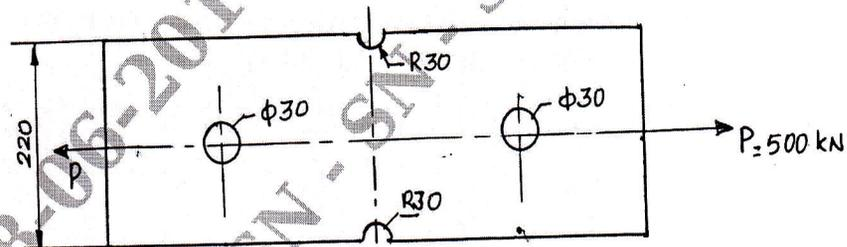

Fig.Q2(b)
b. A machine element loaded as shown in Fig.Q2(b). Determine the safe value of thickness of the plate. Material selected for the machine element has an allowable stress of 200 MPa.